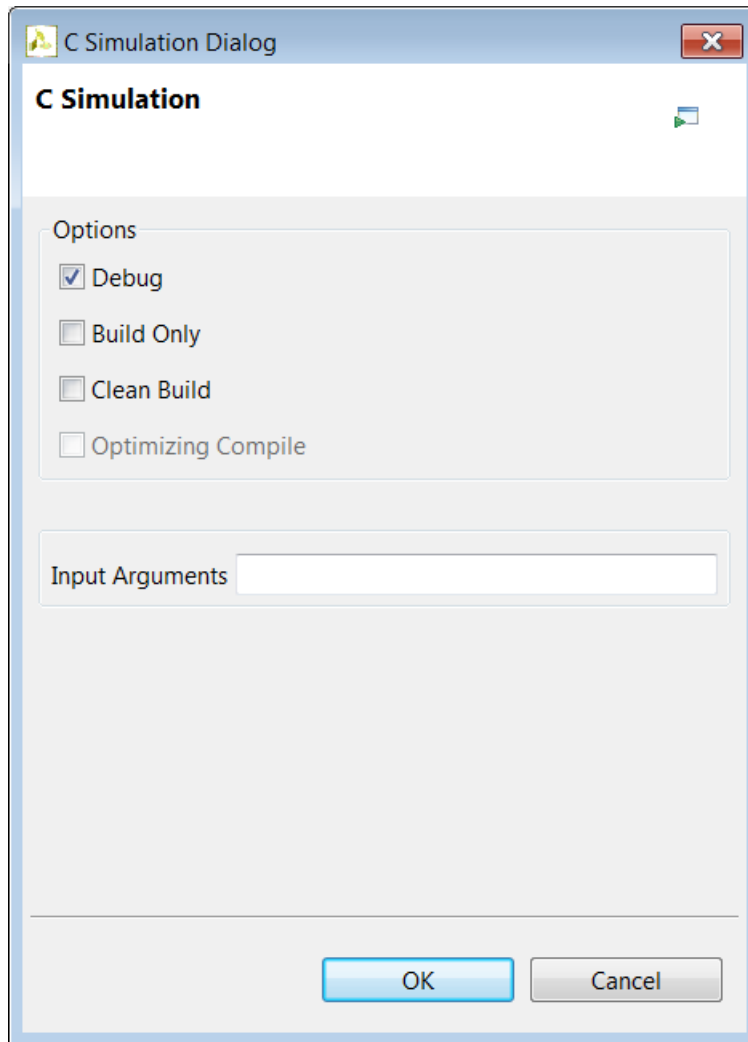

Figure 38: C Simulation Dialog Box
2. Select the **Debug** option as shown in Figure 38.